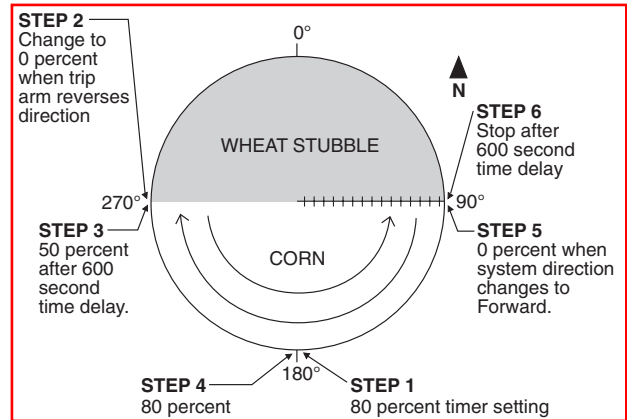

Figure 139-1
Module is another name for a relay. The machine is controlled by a series of relays located in the control panel. Each relay is either closed (ON) or open (OFF) as the machine is operating. The machine can be programmed to perform commands based on the condition of any one of these relays. Refer to Figure 139-1.